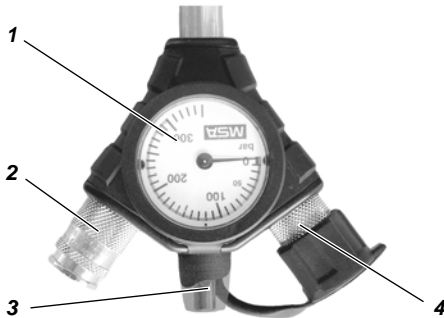

Fig. 3 Combo pressure gauge
The combo pressure gauge (see Fig. 3) is connected at the end of the multi-channel tube. It consists of the pressure gauge (1) itself, the coupling for the lung governed demand valve (2) as well as an acoustic warning device (3) (signal whistle). It triggers a continuous warning signal when the cylinder pressure drops below 55 ± 5 bar. The second connection (4) connects a second lung governed demand valve (e.g. backup set).